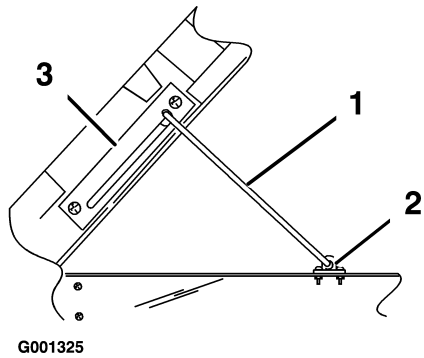

Figure 19
10. Install the screws and clip to secure the prop rod to the frame rail (Figure 19).